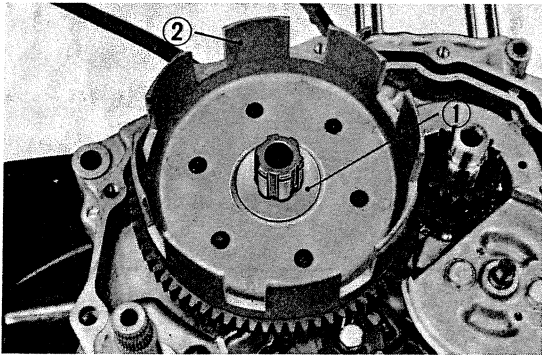

Fig. 68 Spline washer installation
- 1) Install the clutch outer assembly and pressure plate. (Fig. 68)
- 2) Install the 20mm splined washer. (Fig. 68)